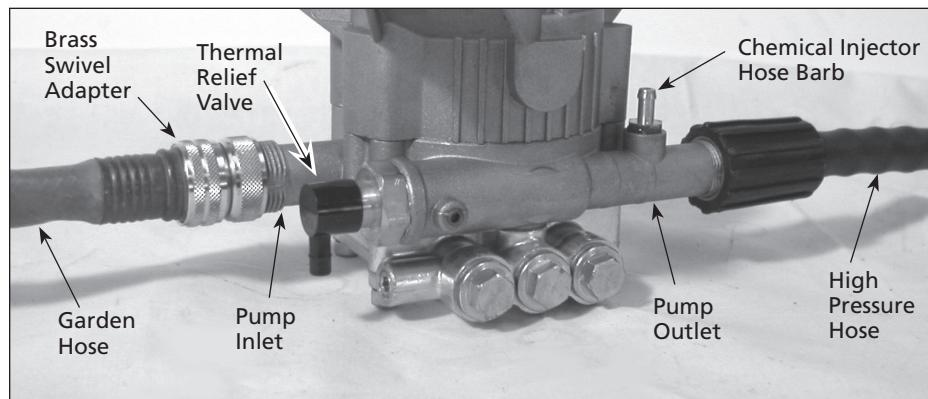
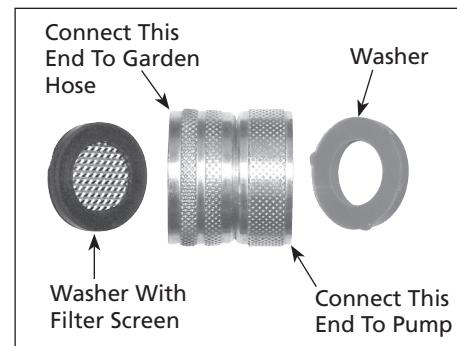

Figure 2 - Pump hook up
Figure 3 - Brass swivel adapter
1. Attach clear plastic tube to barb on pump (see Figure 2 on page 5).
2. **Brass Swivel Adaptor** (See Figure 2). If it's not already attached to the pump inlet, assemble the brass swivel adapter and attach it to the pump inlet (See Figure 3 and Figure 4). Be sure to connect the correct side of the brass swivel adapter to the pump.
4. Connect the high pressure hose to the pump outlet (See Figures 2 and 5).